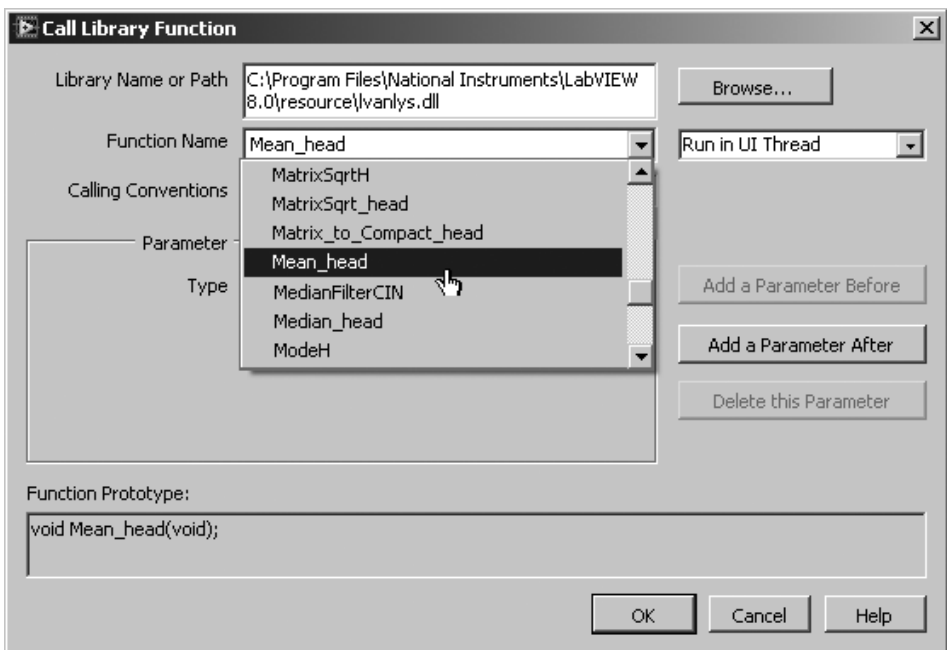

Figure 14.43
- b. Now click on the “Function Name” field. You’ll see this DLL has LOTS of functions. We’re going to use a function called **Mean_head**. Scroll down the list and select “**Mean_head**” as your function name (see Figure 14.43).